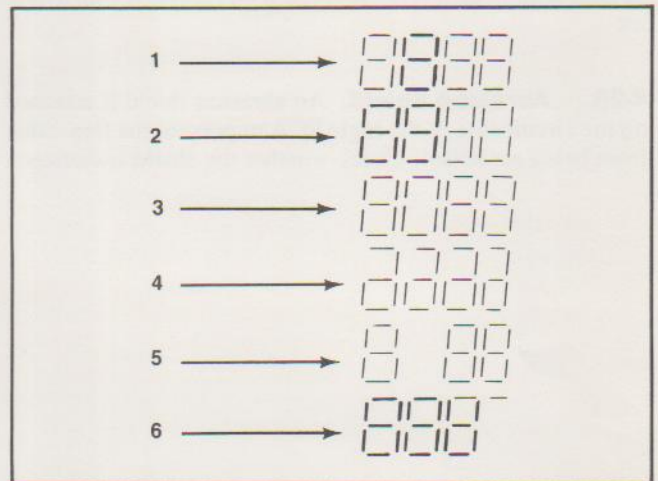

Figure 4-8. Display Problems
- b. Observing the display after each keystroke, key in **-88888888.-88**. Check for the following possible problems, illustrated in figure 4-8:
- (1) Digit too bright or dim.
- (2) Digit has tendency to turn on another digit, causing ghost image to appear.
- (3) One digit missing segment(s).
- (4) All digits missing same segment(s).
- (5) Single digit missing.
- (6) Segment has tendency to turn on another segment, causing ghost image to appear.